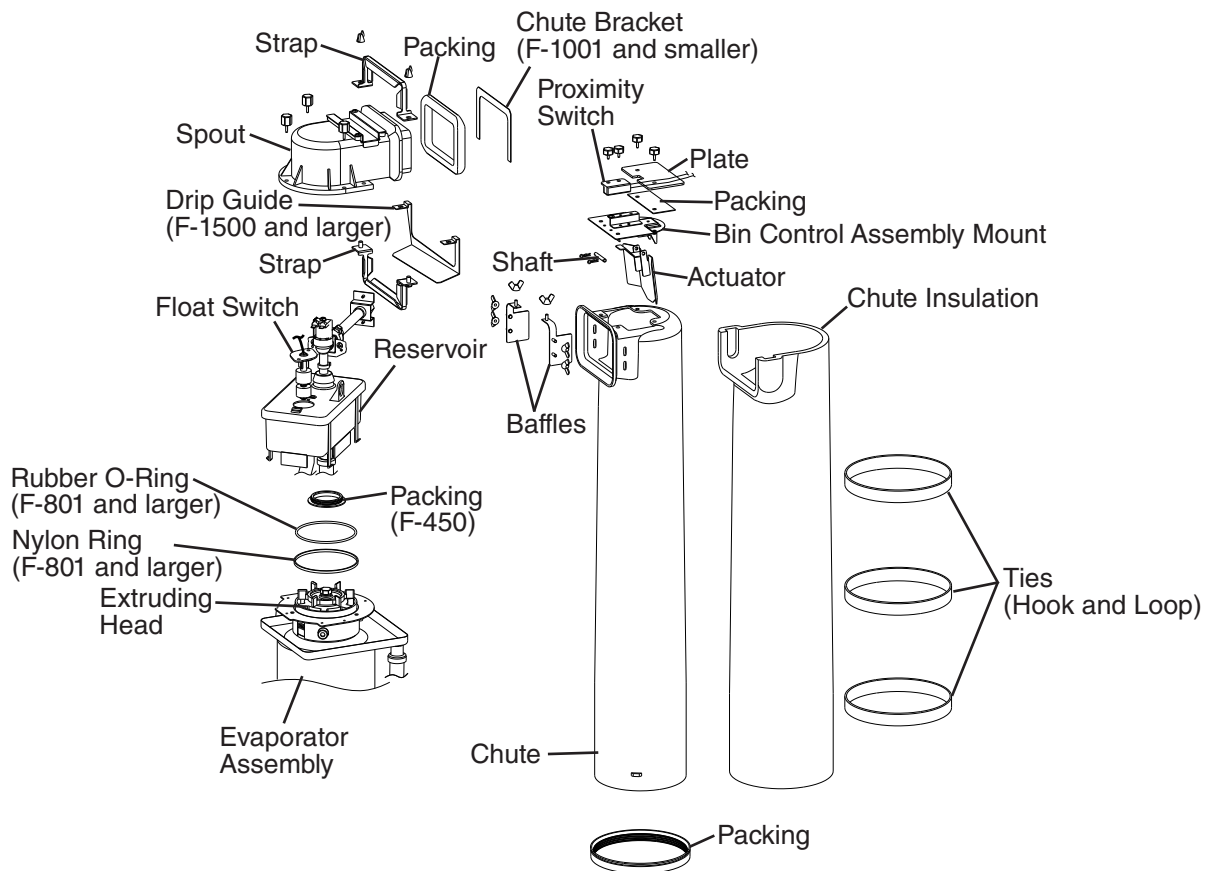

Fig. 19
- 6) Remove the strap connecting the spout to the chute assembly, then remove the spout. See Fig. 19.